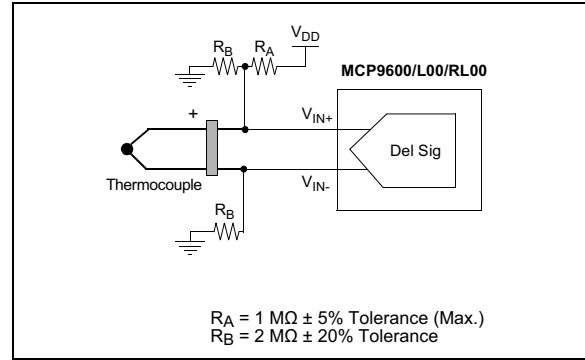

FIGURE 6-6: Adding Open-Circuit Detection Resistors (MCP9600/L00/RL00).
For MCP9600/L00/RL00 open-circuit detection, the Input Range bit (bit 4) of the STATUS register (Register 5-6), can be used to detect open-circuit conditions. This would require a few external resistors, as shown in Figure 6-6. The passive circuit does not affect the MCP9600/L00/RL00 accuracy. When the thermocouple is connected, the input Common-mode voltage is 50% of V_{DD} . When the thermocouple is disconnected, the voltage at the V_{IN+} input is 66% of V_{DD} and the voltage at the V_{IN-} input is pulled low to V_{SS} . This change forces the Input Range bit to be set.
8. Updated Figure 6-6
7. Updated Figure 6-6, 7, 9, 10, 11, 12.